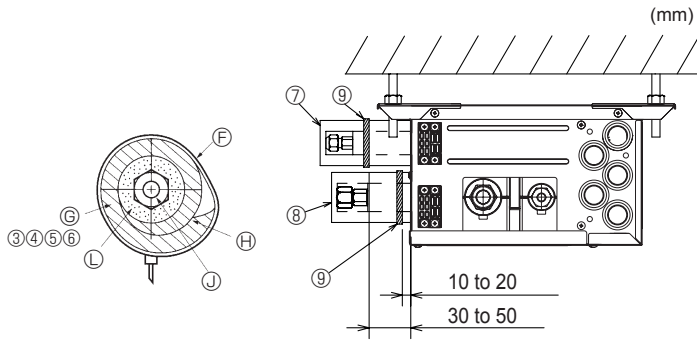
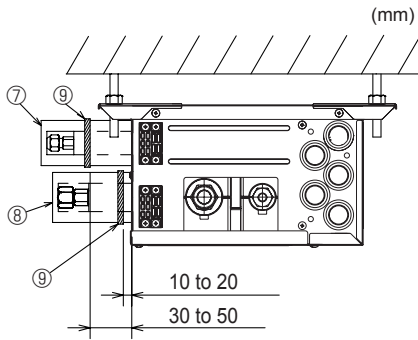

Fig. 7-3
Fig. 7-4
- (1) Remove the flared nuts and caps from the branch box.
- (2) Flare the ends of the liquid and gas piping, and apply refrigeration oil (procure locally) to the flared seat. Do not apply oil to the threaded portion.
- (3) Connect the refrigerant piping immediately. Always tighten the flared nuts to the torque specified in the table 2 using a torque wrench and double spanner.
- (4) Press the pipe covers ③ and ⑤ on the liquid piping against the unit and wrap to hold in place. (Fig. 7-3)
- (5) Press the pipe covers ④ and ⑥ on the gas piping against the unit and wrap to hold in place. (Fig. 7-3)
- (6) Apply the supplied bands ⑨ at a position 10 - 20 mm from each end of the pipe covers (③④⑤⑥).
- (7) If the indoor unit is not connected, fit the supplied pipe covers (with caps, ⑦ and ⑧) to the branch box refrigerant piping connections against the unit to prevent condensation dripping from the pipes. (Fig. 7-4)
- (8) Clamp the pipe covers (⑦⑧) in place with the supplied bands ⑨.
- ⓕ Band ⑨
- ⓖ Pipe covers ③④⑤⑥
► Use the following procedures for indoor connection part which indoor unit is not connected. (Fig. 7-4)
- (1) In order to prevent refrigerant leaks, make sure that the flare nuts are tightened according to the specified torques\* in Table 3.